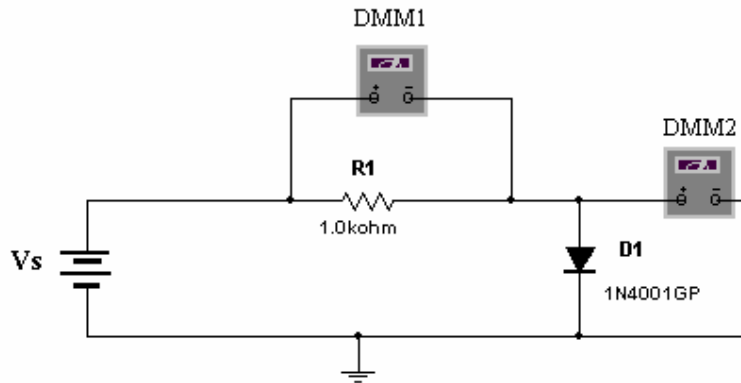

Fig.3: Measurement of the Forward Characteristics of Diode.
- Construct the circuit shown in Figure 3. The voltage source should be set initially to 0.0 V. R_1 limits the diode current to a value lower than the rated maximum forward current.